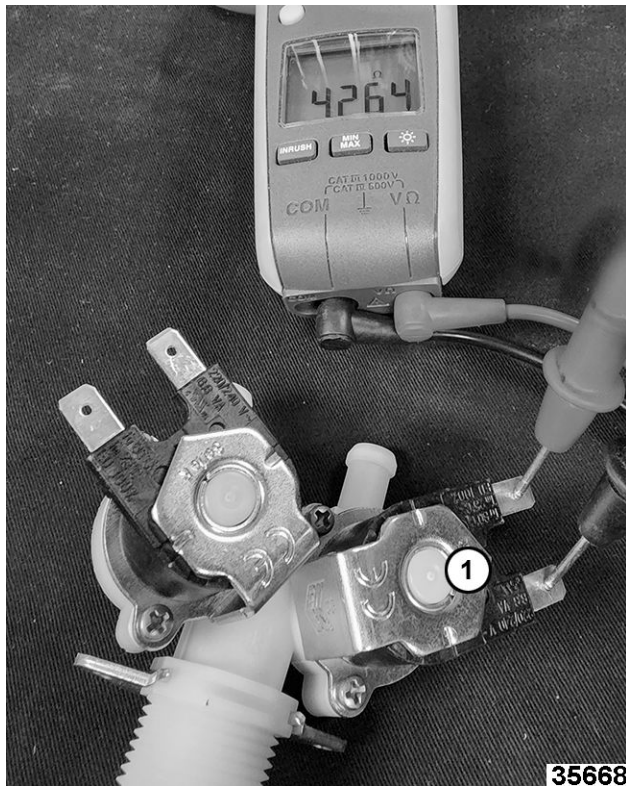

Fig. 75
- Access Yi (1, Fig. 75), Yf (2, Fig. 76) and Yc (3, Fig. 77).